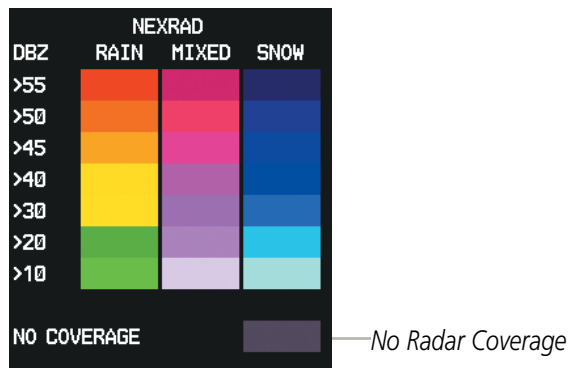

Figure 6-11 NEXRAD Data with Legend
- 1) Press the **MAP** Softkey (for the PFD Inset Map, press the **INSET** Softkey). This step is not necessary on the Weather Data Link (XM) Page.
The display of the information is color-coded to indicate the weather severity level. All weather product legends can be viewed on the Weather Data Link (XM) Page. For the NEXRAD legend (Figure 6-11), press the **LEGEND** Softkey when NEXRAD is selected for display.